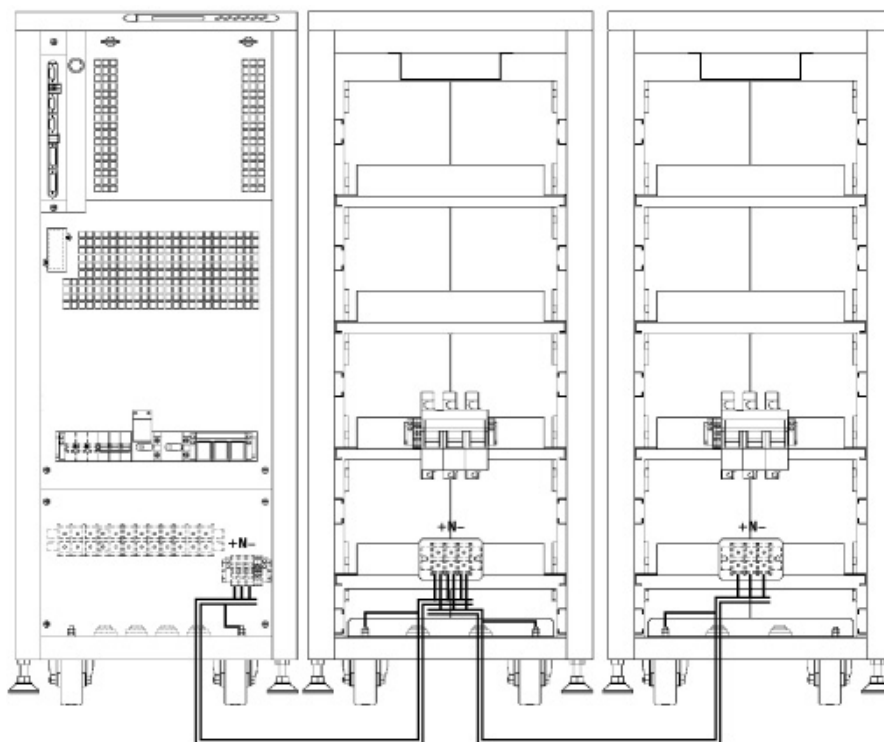

Fig.14. Connection example between a UPS and two battery cabinets.
- The UPS with battery pack will be connected, by connecting one side to terminals (X11), (X23) and (X12) of the UPS and the other to terminals (X47), (X49) and (X48) of the battery pack, while adhering to the stated polarity on the labelling of each part and in this manual, and the color of the cables (red for positive, black for negative, blue for middle tap (N) and green-yellow for earth bonding), see figure 14.
- Keep in mind that if more than one battery pack is supplied, the connection will always be in parallel with the equipment. For instance, the black cable from the UPS negative terminal to the negative of the first battery pack and from this one to the negative of the second battery pack, and so on. Please, proceed in the same way for red cable for positive, blue for half tap (N) and green-yellow for earthing.